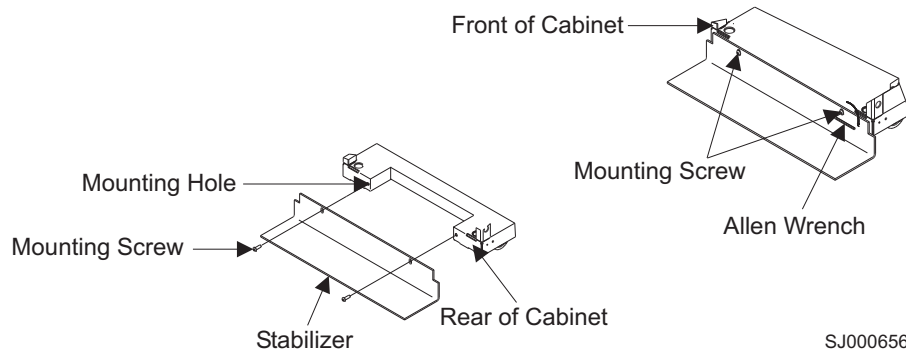

Figure 81. Stabilizers
1. Align the slots in the stabilizer with the mounting holes at the bottom front of the rack. See Figure 81.